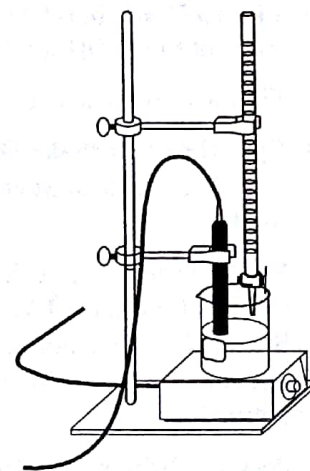

Figure 4. Setup.
5. Set the beaker containing the unknown acid solution on a magnetic stirrer. Clamp the pH electrode so it is submerged in the acid solution (Figure 4). Be sure the stir bar does not hit the electrode. Set the stir bar gently spinning.